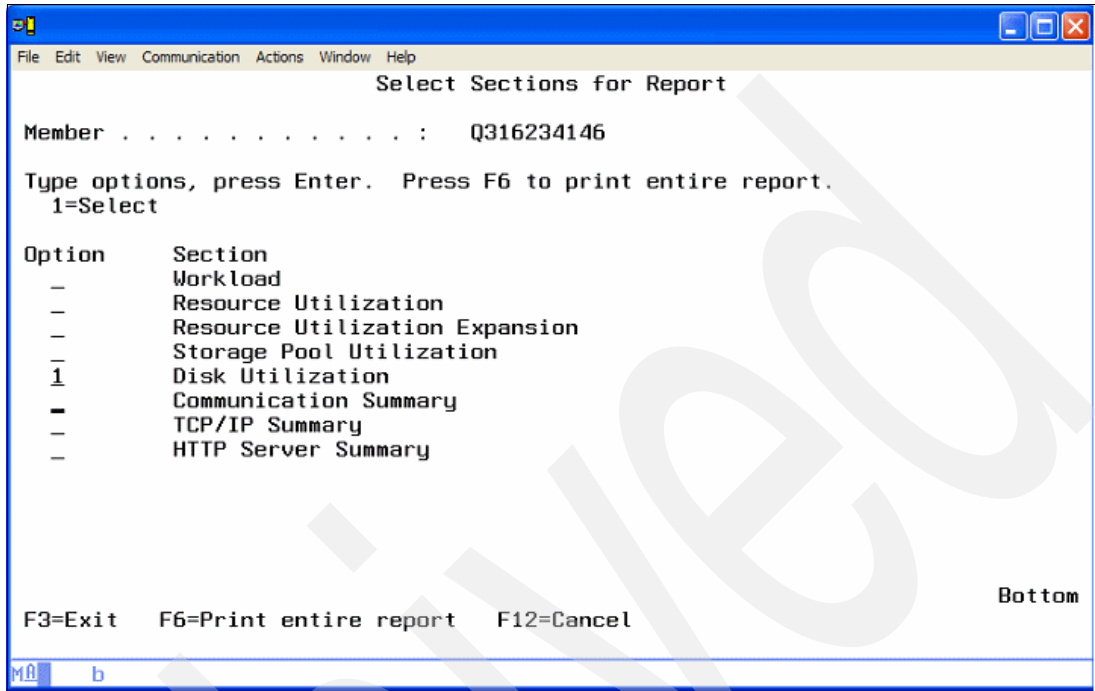

Figure A-23 Select Sections for Report panel
2. On the Select Sections for the Report panel (Figure A-23), choose the section of the report or press F6 to select all sections. In this example, we examine the Disk utilization section.
2. In the Select Section for Report panel (Figure A-23 on page 467), choose the section of the report or use F6 to select all sections. We generate the Disk utilization section.